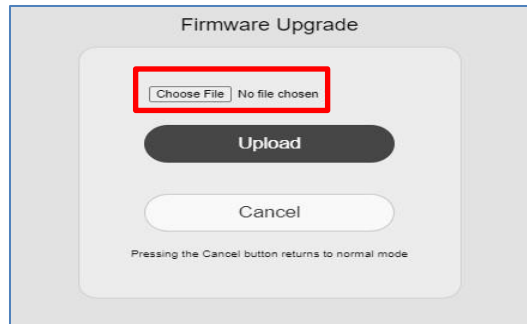

Figure 4.27 – Firmware Upgrade Page
- 5) Click Choose File button and select the upgrade file (NGW_RCU_X.X.X.bin) as shown in **Figure 4.27**.